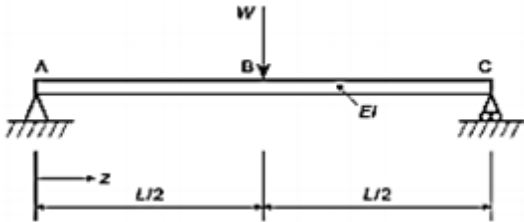

Figure 1
2. (a) Determine the deflection of the mid-span point of the linearly elastic, simply supported beam the flexural rigidity of the beam is EI shown in Figure 1 below, By using total potential energy method [7M]